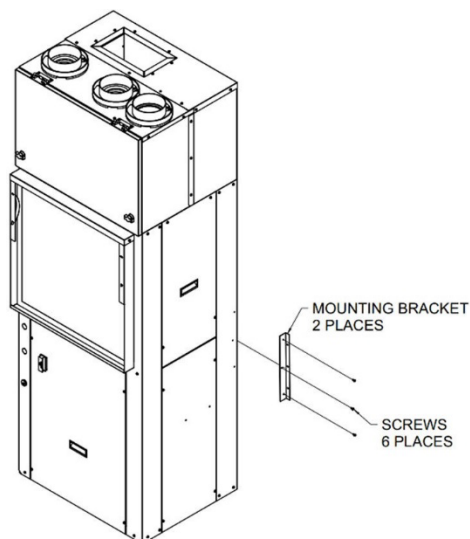

Figure 13 - Mounting Brackets Installation
7. Attach unit mounting brackets (2) as shown in **FIGURE 13 – Mounting Brackets Installation**